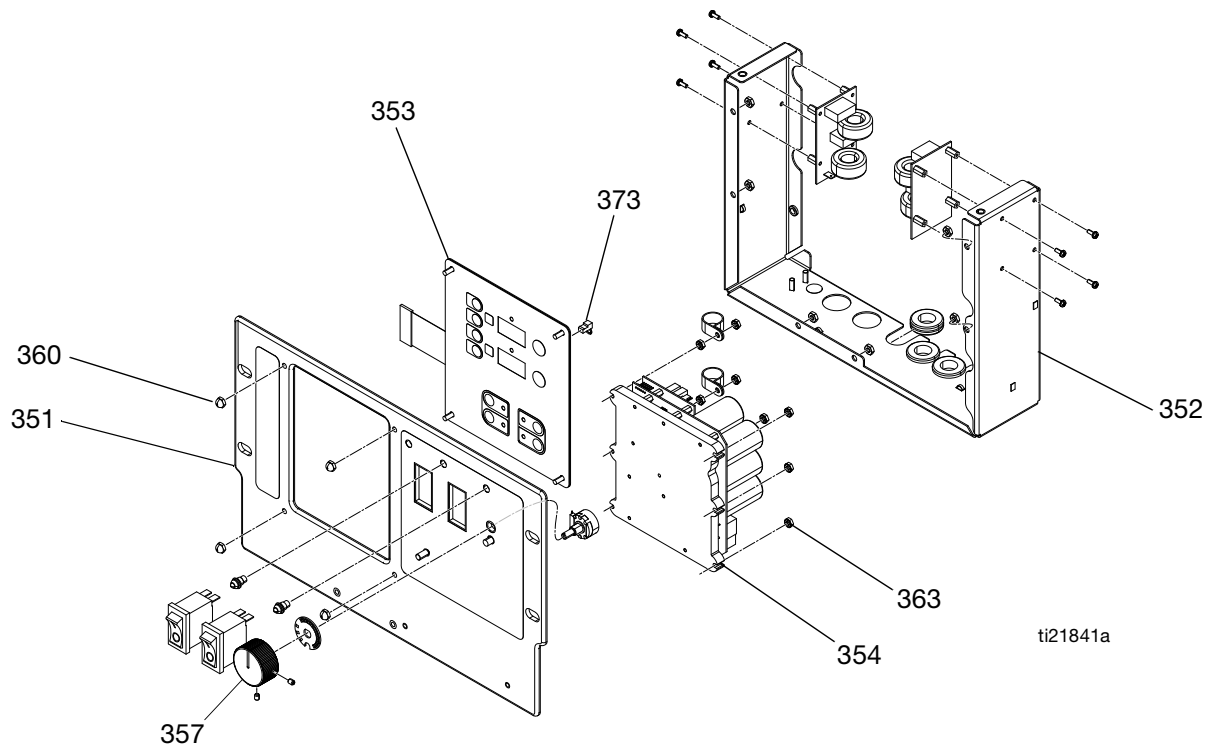

FIG. 10 Control Panel
2. Remove screws (21) and display cover (26).
4. Disconnect the main display cable (81) from the upper right corner of the temperature display (353). See FIG. 10, page 43.
5. Remove the jumper (373) from the back of the display (353). Set aside and install the jumper on the new display.
6. Disconnect the ribbon cable(s) (RC) from the back of the display; see FIG. 10, page 43.
7. Remove the nuts (360) from the plate (351).
8. Disassemble the display (353), see detail in FIG. 10, page 43.
9. Reassemble in reverse order, see FIG. 10, page 43. Apply medium strength thread sealant where shown.
2. Remove the display cover (26) on back of the cart to expose the control board (354).
3. Disconnect all cables and connectors from the board (354). See Table 8, page 45.
4. Remove the six nuts (363) and remove the board from the control board (354). See FIG. 10, page 43.